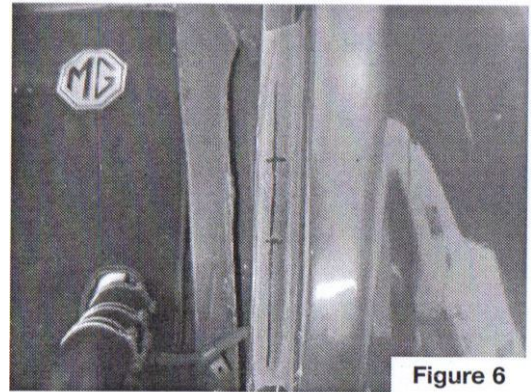

Figure 6
6. Measure and mark  $1\frac{1}{2}$ " forward from the point that was just centre punched on the centre line. Refer to figure 6.